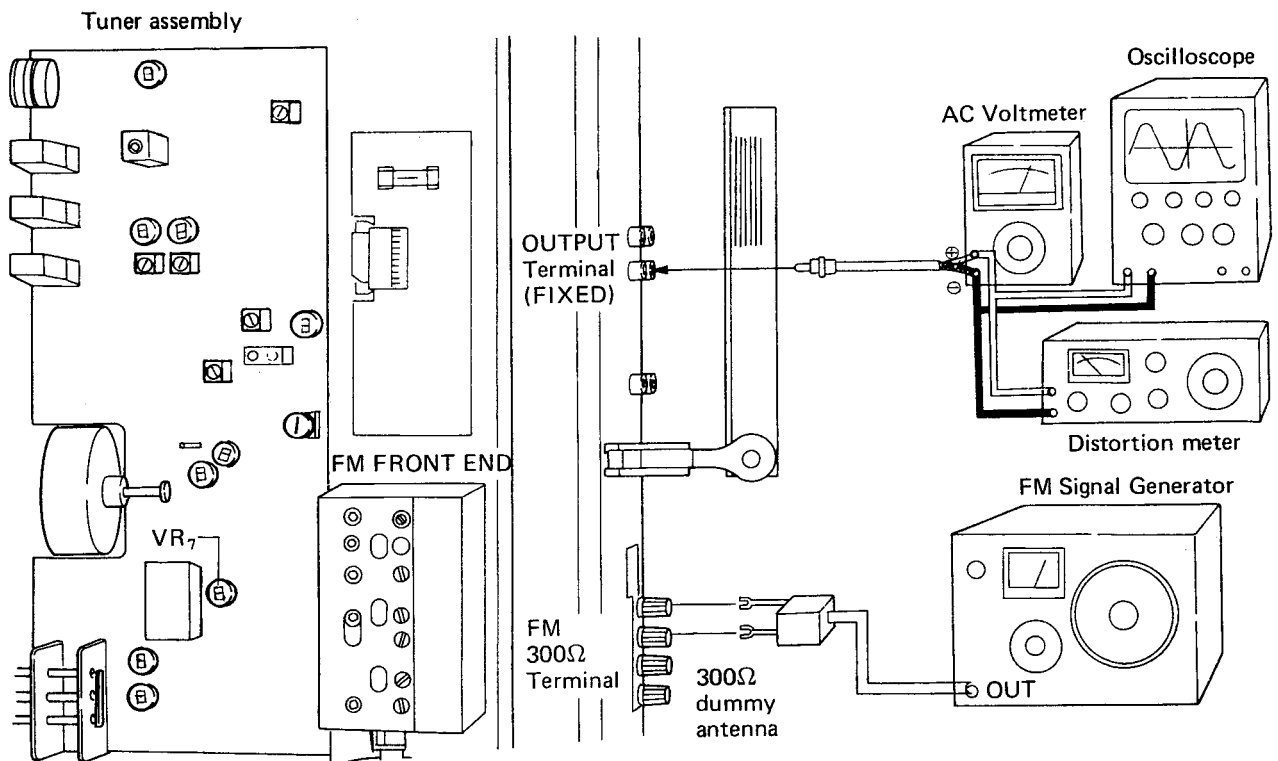

Fig. 16
1. Connect up the test instruments as shown in Fig.16.